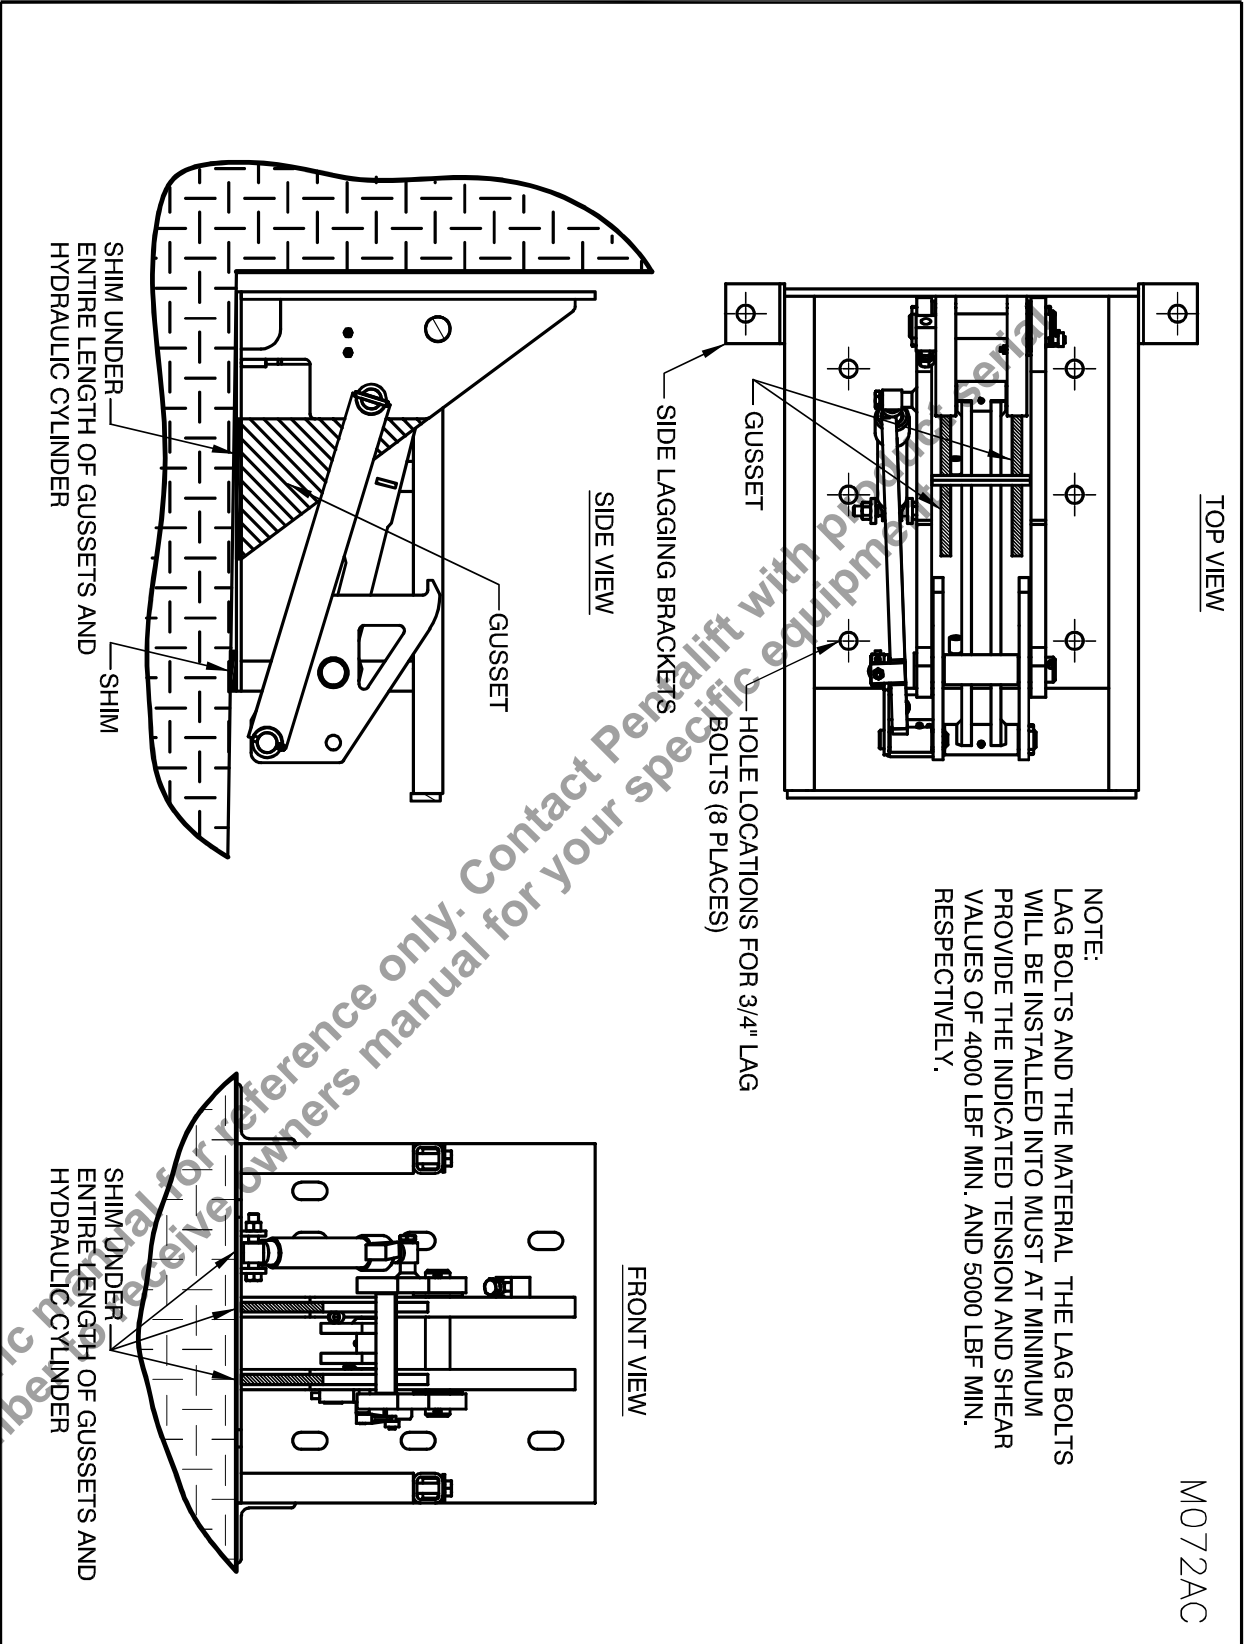

Figure 11: Horizontal Surface Mounting Installation
If the intent is to surface mount the vehicle restraint on a horizontal surface (typically the loading dock driveway) without attaching it to the loading dock wall face, the first step is to confirm the restraint has been ordered and provided to accommodate surface mounting. Note the standard HFR32 is not suitable for surface mounting (without attachment to the loading dock wall face) and must be ordered and built optionally to the model HFR32SM to accommodate surface mounting. To confirm, review the vehicle restraint serial number plate. The model number should be indicated as HFR32SM. Also confirm the gussets, side lagging brackets and holes in the horizontal base plate are present as shown (see “Figure 11: Horizontal Surface Mounting Installation” on page 16).
As well, confirm the installation surface in combination with the lag bolts (supplied by others) to be used for the installation has suitable strength to accept the forces as indicated in “Figure 11: Horizontal Surface Mounting Installation” on page 16. Note: Asphalt is typically not a suitable surface. Typically concrete of a sufficient depth and strength is required to accommodate the forces and loads as indicated.
1.  Inspect the HFR32SM. Confirm that the HFR32SM is configured for surface mounting. The optional horizontal surfacing mounting option consists of a series of holes in the bottom plate to accommodate the lagging as well as additional gusseting (see “Figure 11: Horizontal Surface Mounting Installation” on page 16)
7.  Use a level to ensure that the HFR32SM is level side to side and front to back. Shimming may be required. All shims must be welded together and to the bottom of the HFR32SM. It is critical to ensure that the bottom of the HFR32SM make full contact with the supporting surface or grade especially underneath the gussets and hydraulic cylinder as indicated “Figure 11: Horizontal Surface Mounting Installation” on page 16. Make sure no voids exist under these areas.
8.  Lag the HFR32SM to the supporting surface using 3/4" diameter lag bolts (minimum shear force: 5,000 lbf; minimum tension value of 4,000 lbf). **Note: Lagging bolts are supplied by others. The lag bolt must provide the indicated tension and shear values. Follow the lag bolt manufacturer's instructions for installation as well as shear and tension values. Confirm the installation location is constructed to withstand the specified forces for the lag bolts. (see "Figure 11: Horizontal Surface Mounting Installation" on page 16)**